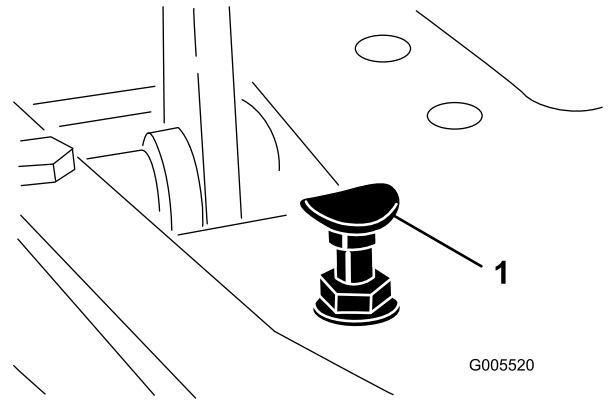

Figure 53
To obtain maximum transport speed, put the functional control lever in the transport position and press down on the traction pedal. If the pedal contacts the stop (Figure 53) before tension is felt on the cable, an adjustment is required:
1. Put the functional control lever in the transport position and loosen the locknut securing the pedal stop to the floor plate (Figure 53).